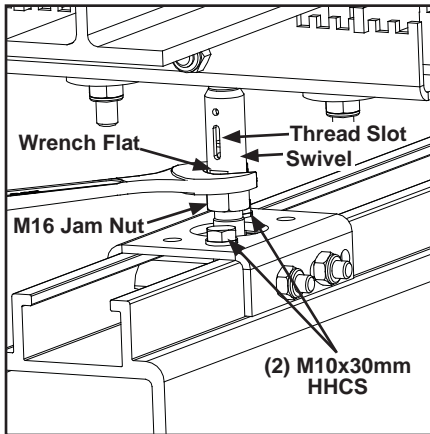

Figure 3-57
- Step 2. Verify threads are visible in thread slot when finished leveling system. See Figure 3-57.
- Step 4. Tighten two (2) M10 x 30 mm HHCS to lock mounting bracket to rail. Tighten bolts until lock washer is flat. Do not over tighten. See Figure 3-57
- Step 5. Tighten M16 hex jam nut to rod connector to lock rod into connector. See Figure 3-57.